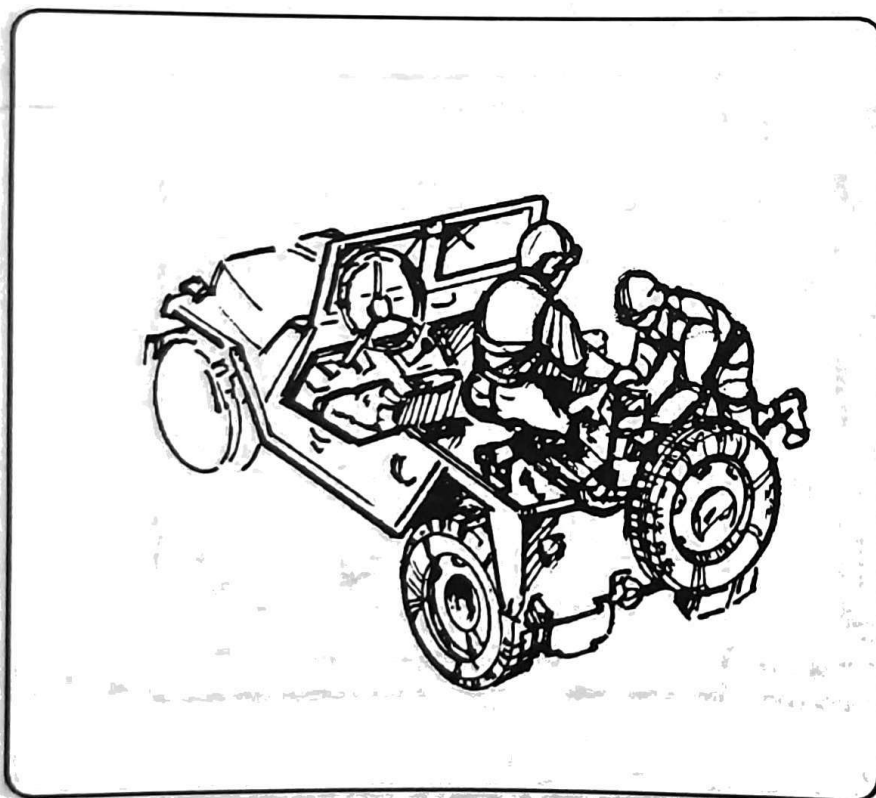

Figure 6-14. Mounting and securing the pedestal.
1. Mount and secure the pedestal on the vehicle (Figure 6-14).